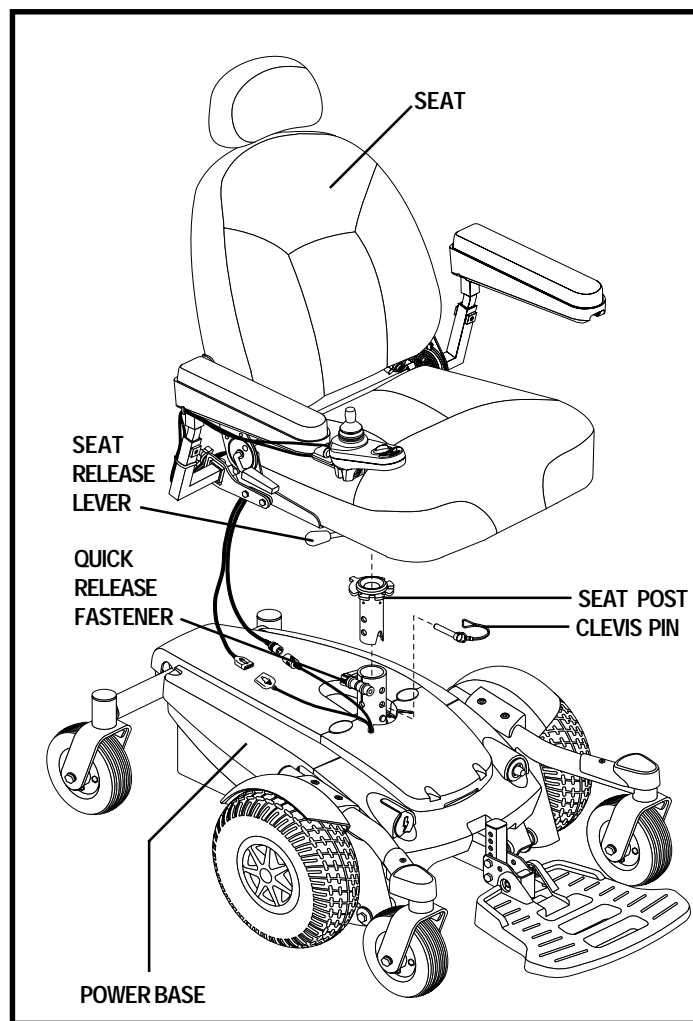

Figure 13. Seat Height Adjustment
3. Loosen the quick-release fastener. See figure 13.
4. Remove the seat. See figure 13.